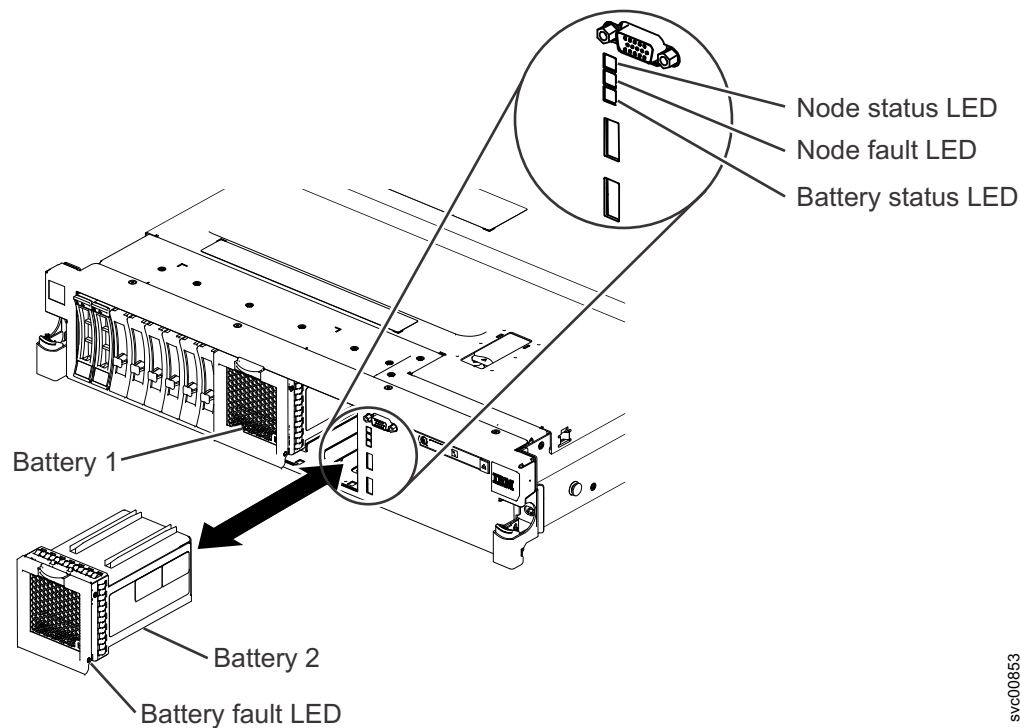

Figure 123. Removing the battery in the SAN Volume Controller 2145-DH8 node
3. Gently pull the battery assembly out of the battery slot, as shown in Figure 123.